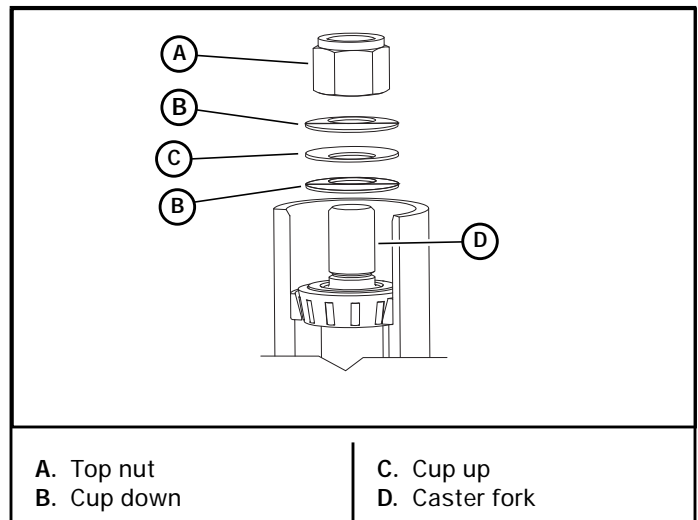

Figure 4-16
IMPORTANT: Stack the cup washers as shown in Figure 4-16.
12. Torque the top nut to 40 ft-lbs (55 N·m), then back off ¼ turn. Figure 4-16